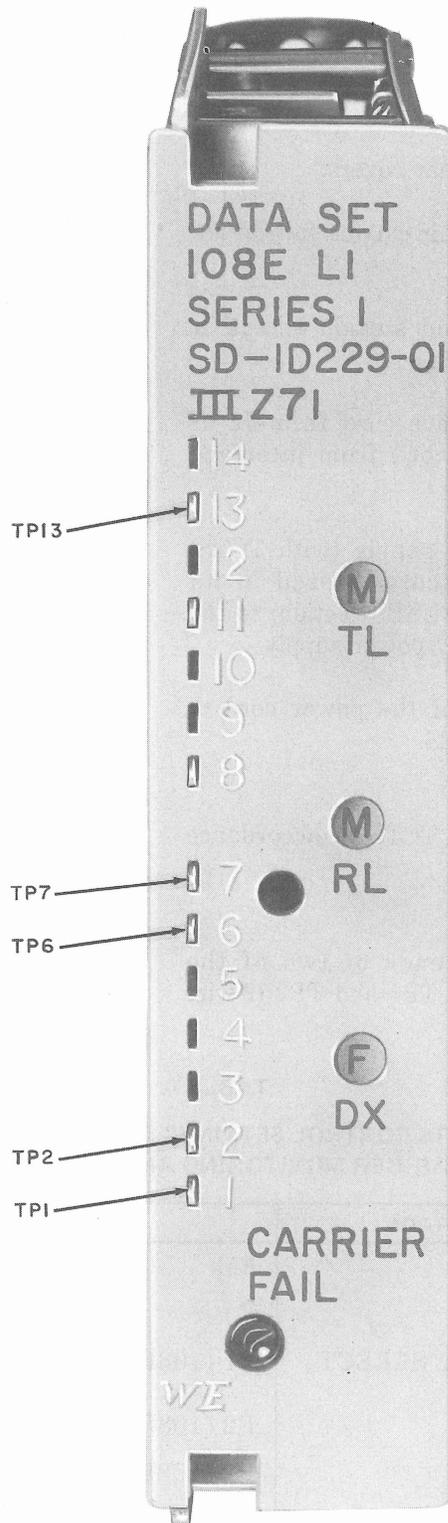

Fig. 1—Data Set Test Points
5 Operate 1013 handset TALK MON switch to MON and connect leads to test point (TP) 1 and TP2 (2-wire or 4-wire) on the front of the data set (see Fig. 1).
6	Connect alligator clip ends of the two W1AD cords to data set TP1 and TP2 for 2-wire line facilities or TP6 and TP13 for 4-wire line facilities (see Fig. 1).